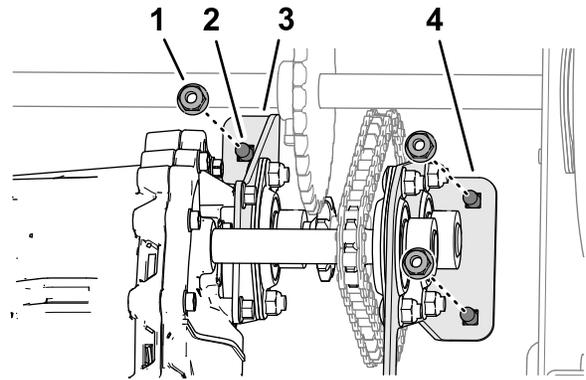

Figure 55
- Remove the 3 flange locknuts (5/16 inch) that secure the transaxle support bracket and the bearing bracket to the machine (Figure 55).